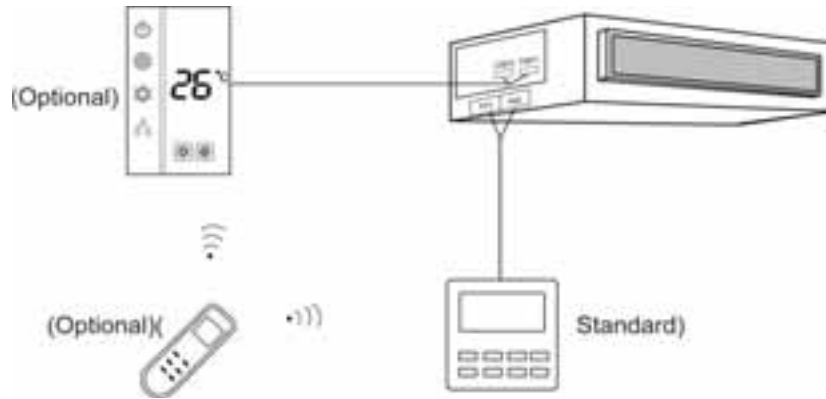

Fig 5.4.3
- 3) Wired controller and receiving light board can be used on the same unit. When operating through a remote controller, both wired controller and the receiving light board can receive the signals, as shown in Fig. 5.4.3.